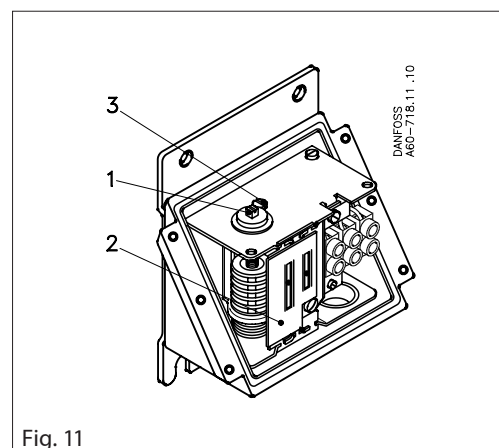

Fig. 11
When the thermostat cover is removed, and the locking screw (3) fig. 2 is loosened, the range can be set with the spindle (1) while at the same time the scale (2) is being read (fig.11).